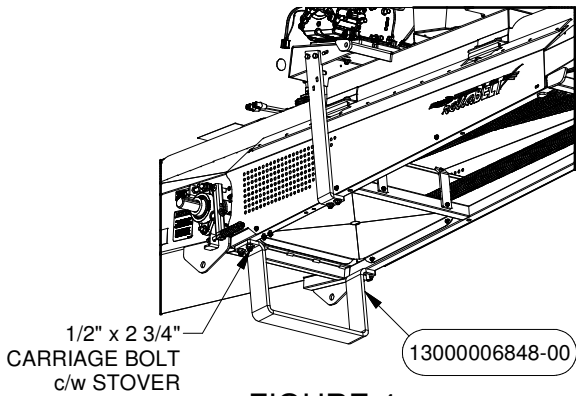

FIGURE 4
- Attach the Intake Riser PN# 6848 to the Intake using Carriage Bolts and Stovers. Fasteners can be found in Bolt Bag PN# 6915. Bolt Bag can be found in Short Intake Hardware Box PN# 7526. See Figure 4 for details.